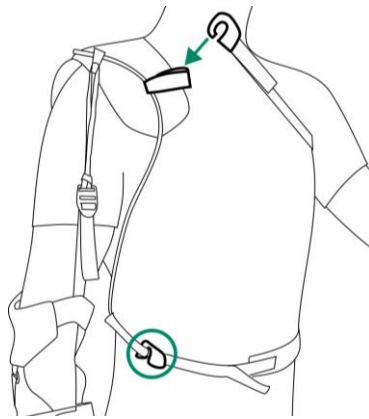

Figure 2
3. Attach both torso straps. For this, secure the plastic hooks to the loops at the front of the bracket (Fig. 2).